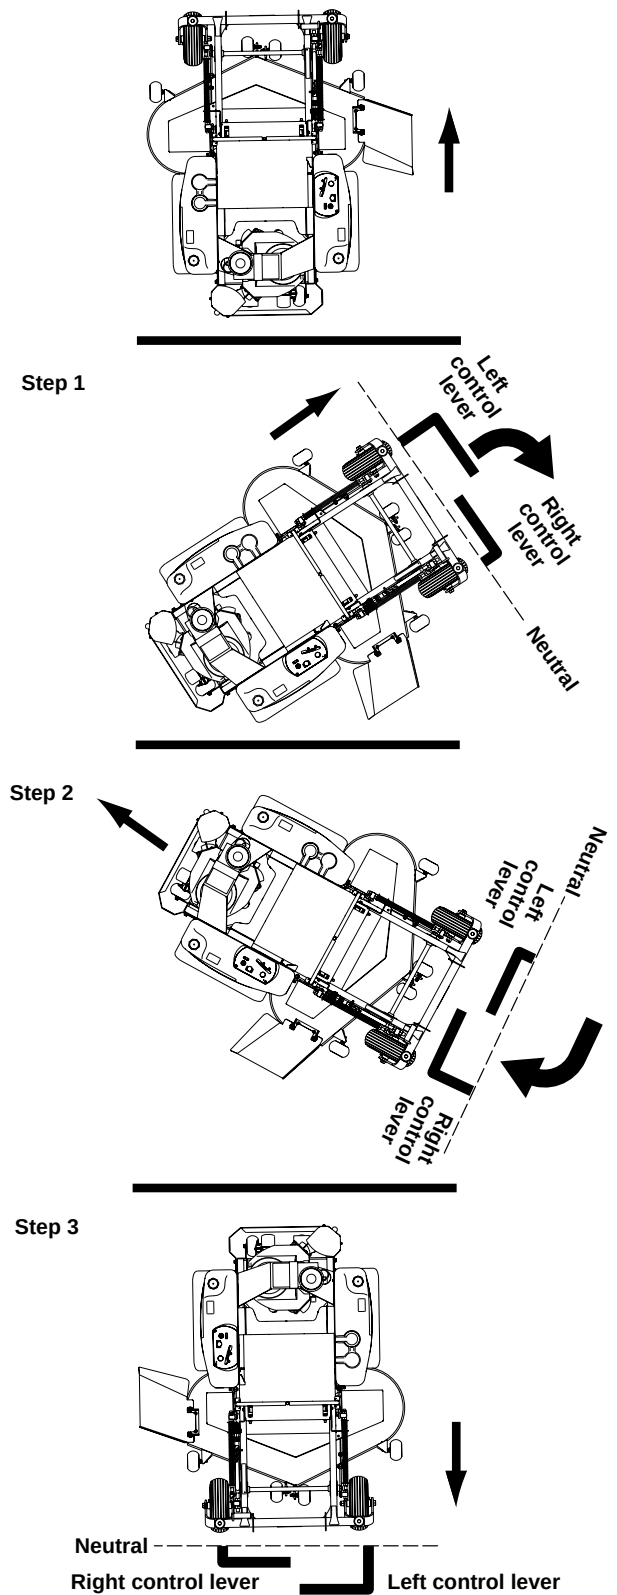

Figure 3-10
**To make a three point turn to the right,** move the left steering control lever farther forward from neutral than the right steering control lever and start the turn. Next, pull back on the steering control levers until they are past neutral and the machine starts to go rearward. Pull the right steering control lever farther rearward from neutral than the left steering control lever until the rear of the machine has pivoted around. Then, push the steering control levers forward until they are both past neutral and the machine starts to go forward. Push the left steering control lever farther forward from neutral than the right steering control lever and finish the turn. (Figure 3-10)